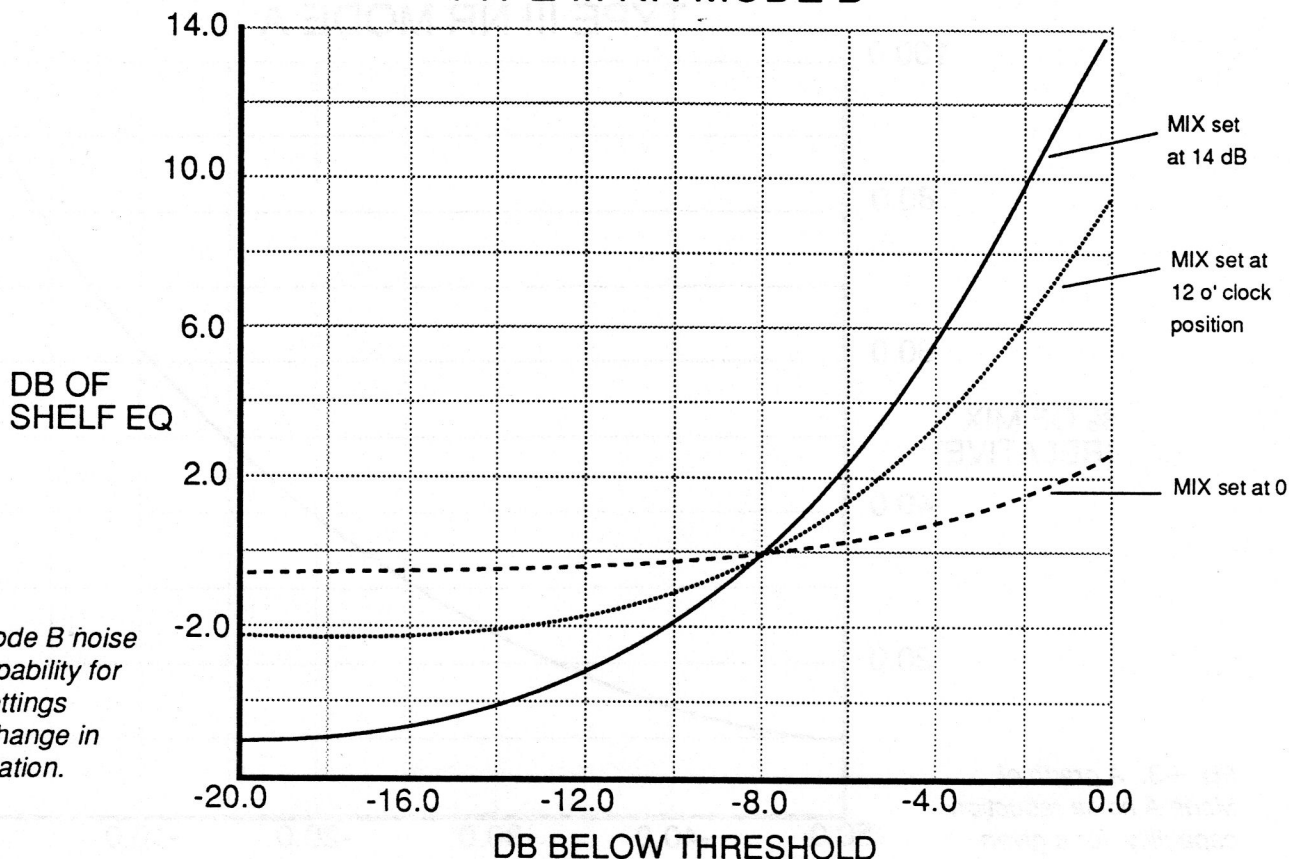

Fig. 4-4. Mode B noise reduction capability for three MIX settings versus the change in shelf equalization.
Fig. 4-4 shows the action of NR MODE B (variable shelving equalization) for three different MIX Control settings (refer to Section 4.8) at different levels below a given THRESHOLD setting. Notice that a maximum MIX Control setting produces the greatest shelving drop as sidechain signal falls below a set threshold. When NR MODE B is active, the Model 250 will actually "erase" audio (broadband) noise while, at the same time, restore brightness and intelligibility to a seriously noisy audio track or source.
For NR MODE B, a proper noise reduction setting is achieved when the red (-) and yellow (0) LED's alternately flash between audio program pauses or breaks. At this point, the shelving circuit will cut the high frequencies, as the program signal drops below the NR THRESHOLD setting (refer to Fig. 4-4).